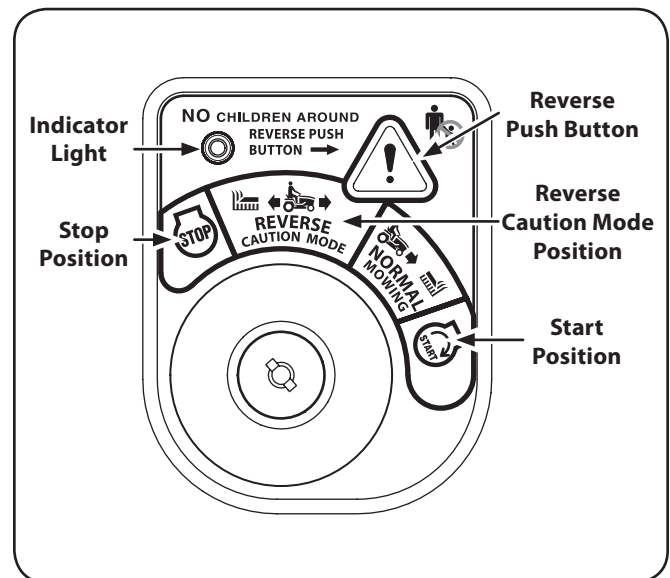

Figure 5-2
2. Turn the key from the NORMAL MOWING (Green) position to the REVERSE CAUTION MODE (Yellow) position of the key switch module. See Fig. 5-2.
3. Press the REVERSE PUSH BUTTON (Orange, Triangular Button) at the top, right corner of the key switch module. The red indicator light at the top, left corner of the key switch module will be ON while activated. See Fig. 5-2.